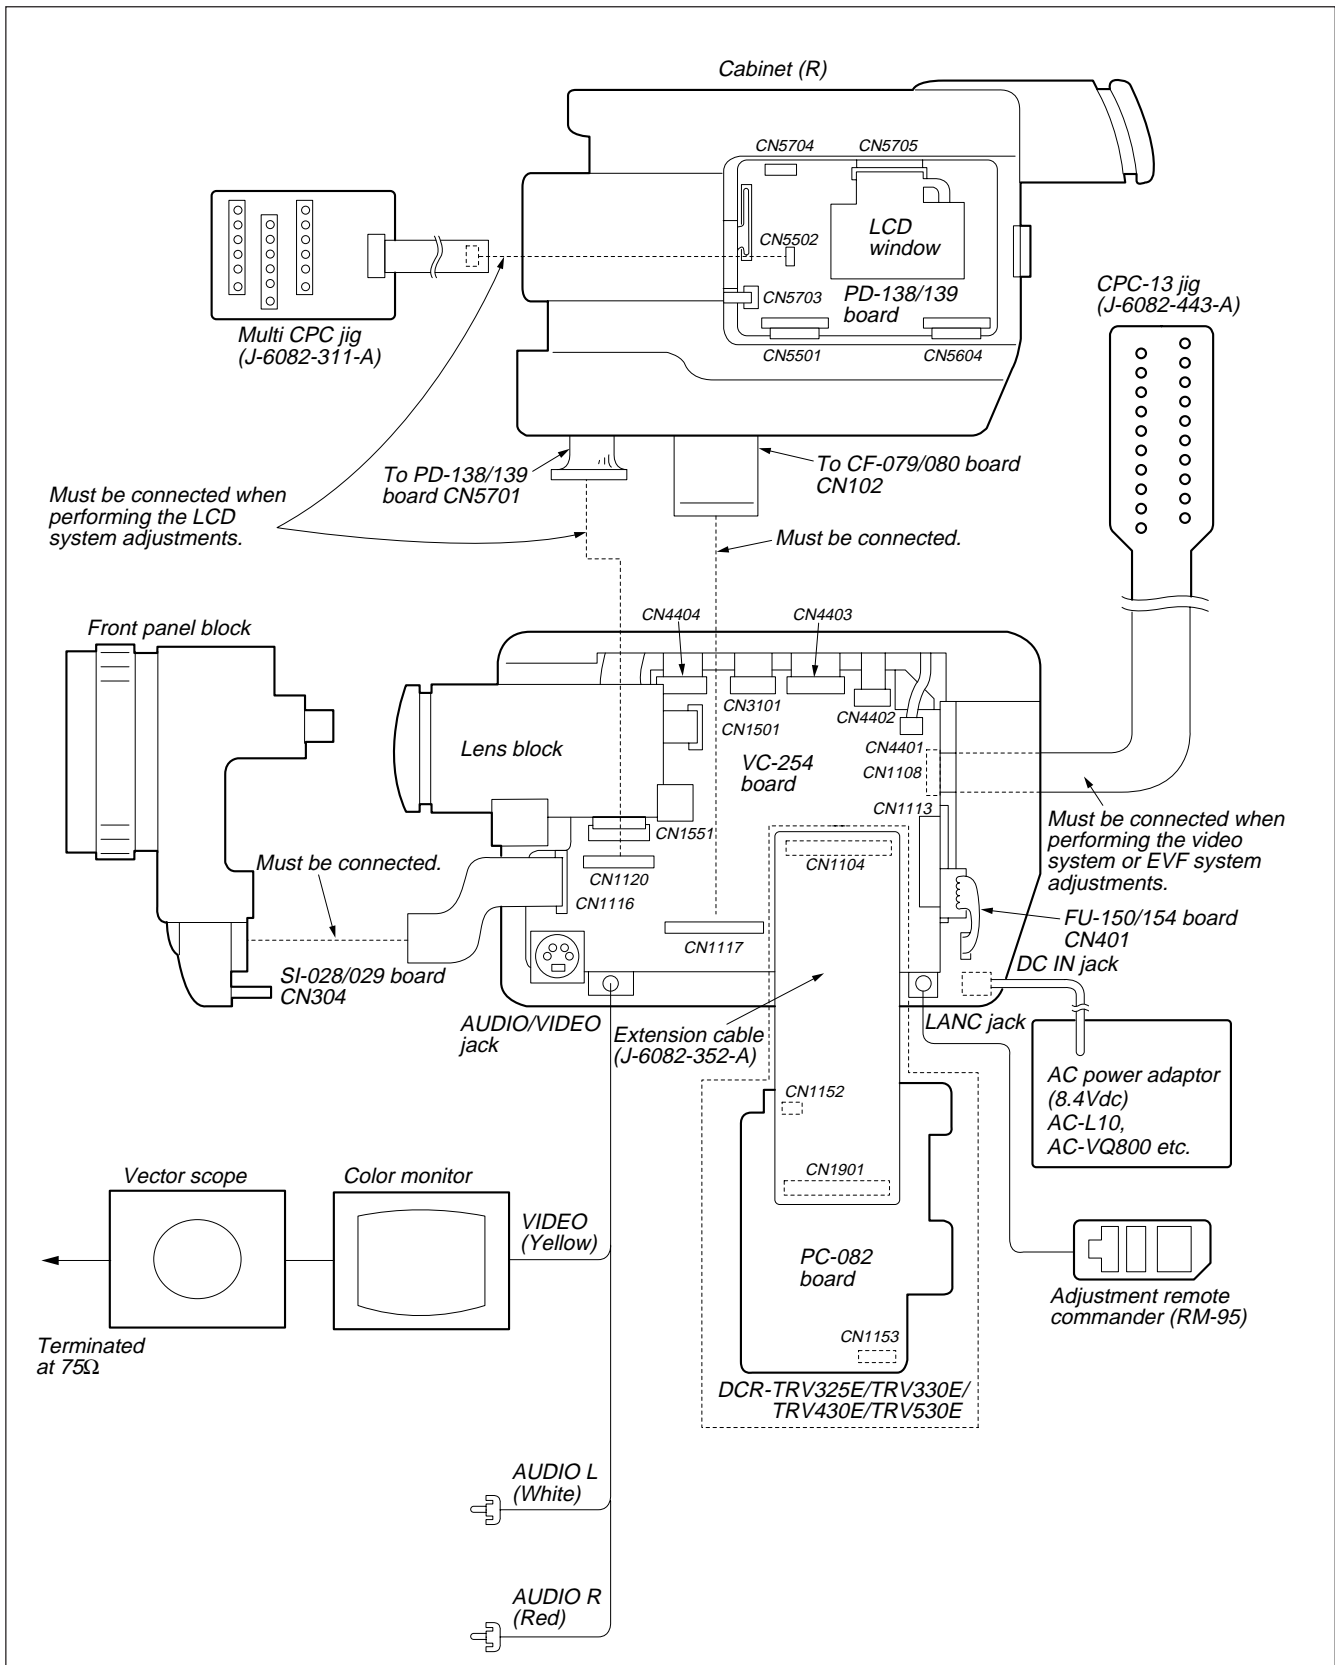

Fig. 5-1-3.
- 1) Connect the equipment for adjustments according to Fig. 5-1-3.
**Note3:** As removing the cabinet (R) (removing the VC-254 board CN1117) means removing the lithium 3V power supply (CF-079/080 board BT101), data such as date, time, user-set menus will be lost. After completing adjustments, reset these data. If the cabinet (R) has been removed, the self-diagnosis data, data on history of use (total drum rotation time etc. ) will be lost. Before removing, note down the self-diagnosis data (data of page: 2, address: B0 to C6) and data on history use (data of page: 2, address: A2 to AA). (Refer to “5-4. Service Mode” for the self-diagnosis data and data on the history use.)